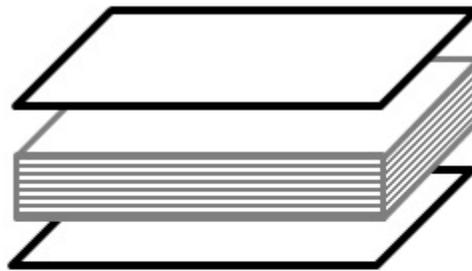

Figure 5: Sandwich the stack of samples between two layers of rigid material such as corrugated cardboard.
- 3.7 When 12 samples have been alternated among 13 sheets of paper place a rigid layer both above and below the stack (Figure 5).